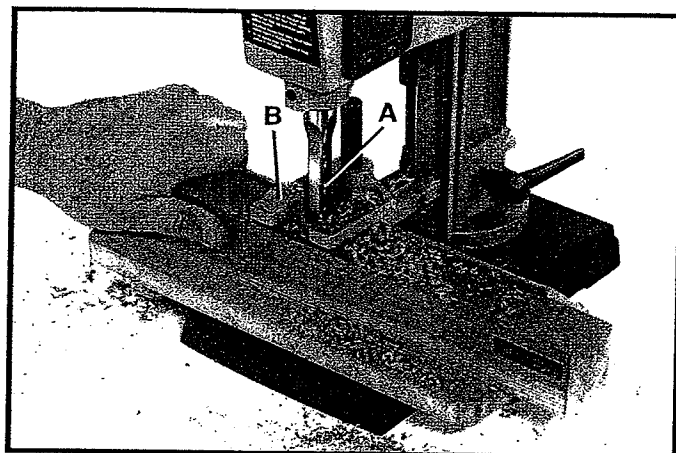

Fig. 33
2. Fig. 33, illustrates a typical mortising operation. Note that the opening (A) in the chisel is to the right. This means that after the first incision is cut, the workpiece should be moved to the right for subsequent cuts. This allows chips to escape freely through the opening in the chisel.
3. Make sure the workpiece is held firmly against the fence when cutting and that the holddown (B) Fig. 33, is properly adjusted. The rate of penetration of the chisel must be fast enough to prevent burning at the tip of the bit, but not too fast as to stall the motor. You may encounter smoke from the bit or material once the chisel has engaged the material. The smoke created is a natural operating occurrence in hollow chisel mortising and is caused by material chip friction and the resins in the stock being burned off. Bluing of the chisel after initial use is not indicative of a dull chisel, but a combination of friction and resin buildup on the cutting faces of the chisel. A dull chisel can be detected by the amount of excess force required to complete a cut.